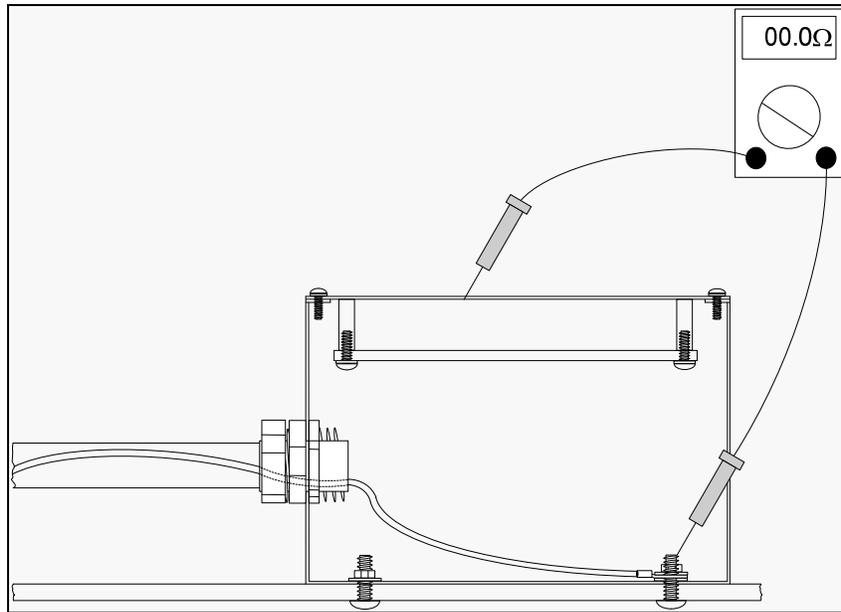

Figure 17 Continuity Testing - Bonding Wire to Faceplate
Step 2: Measure the resistance from the bonding wire to the faceplate as shown in **Figure 17** below.